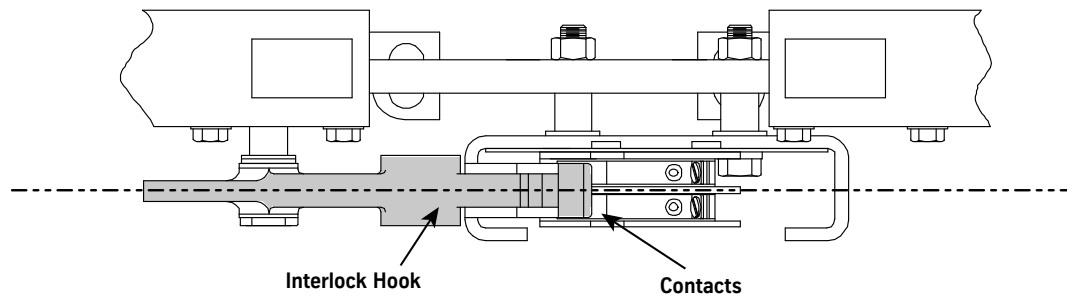

Figure 41 - Interlock Hook Centered on Contacts
2. Close the doors and ensure that the interlock hook is centered on the contacts. See Figure 41.
2. Close the doors, and check the clearance between the sides of the interlock hook, contact plug, and box to ensure that they are centered on their respective contacts. See Figure 41 on page 45.